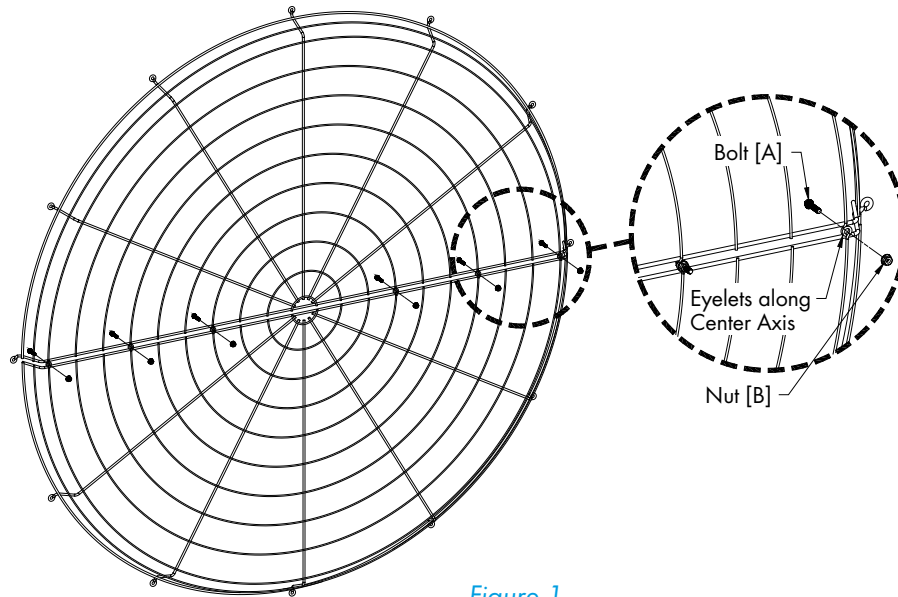

Figure 1
Take the 2 halves of the Outlet Basket Guard and align the center axis of each so the eyelets on the basket part are facing the same direction and the eyelets along the center axis are aligned together. See Figure 1. Secure the 2 halves of the Outlet Guard together using (6) Bolts [A] and Nuts [B]. See Figure 1.